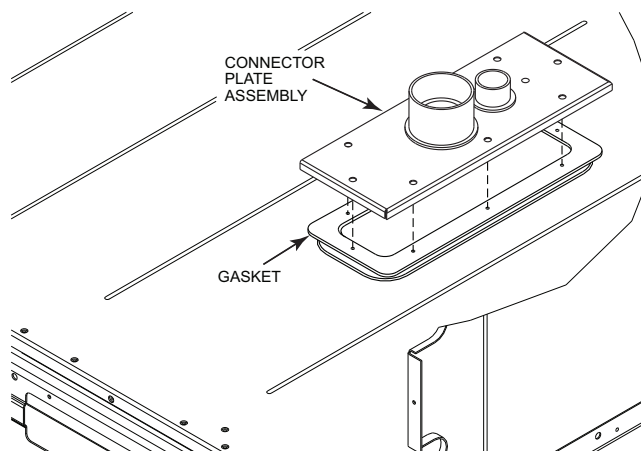

Fig. 37 — Installing Thru-the Base Option
3. Place the gasket over the embossed area in the basepan, aligning the holes in the gasket to the holes in the basepan. See Fig. 37.